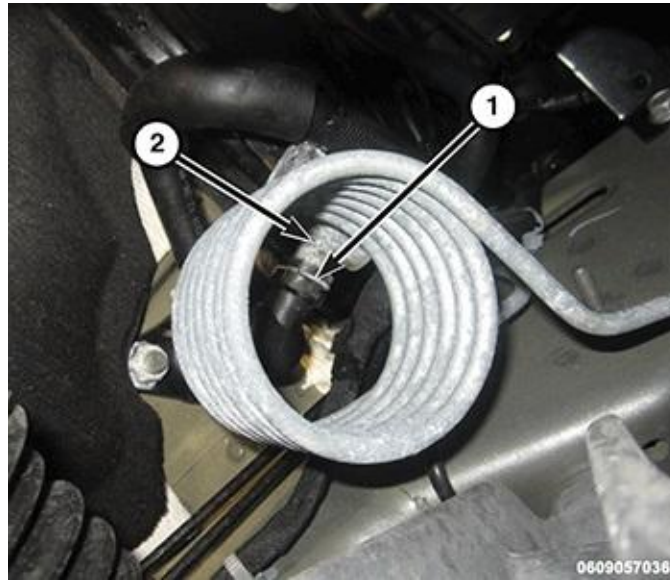

Fig. 8 Clutch Master Cylinder
11. Install the hydraulic clutch master cylinder high pressure line (2) and clip (1) (Fig. 8).